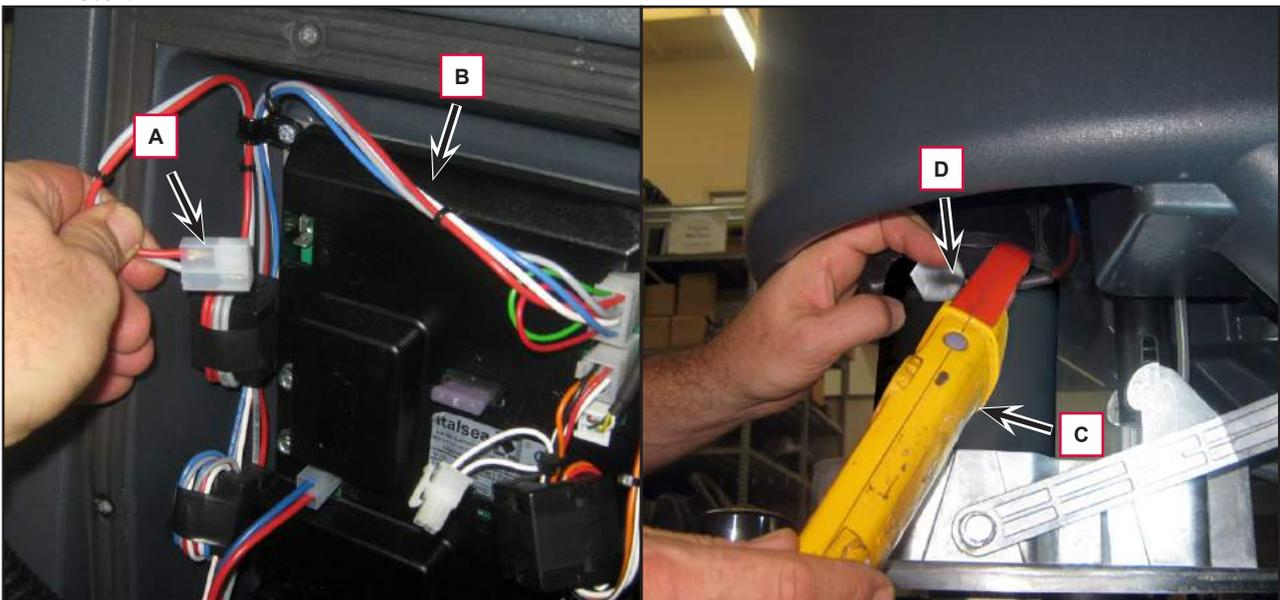

Figure 6
4. Disconnect the drive system connector (A) (Figure 6) on the function board (B) to disable machine movement.
7. Apply the amperometric clamps (C) to an electrical wire (D) of the motor.
10. Remove the Amp clamp (C).